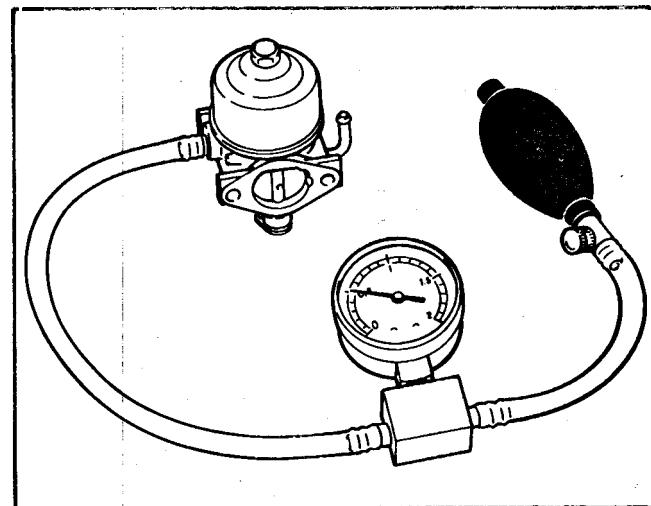

Figure 18
3. If it is suspected that the seat is leaking, the carburetor can be pressure tested after it has been cleaned. Use Toro Pressure tester, Number 41-7910. If the seat is good, it will hold .5kg/cm² (7 psi) for at least 10 seconds. This procedure should be completed with the carburetor turned upside down so the seat holds the needle closed. See Figure 18. If the pressure leaks down, replace the 'needle and try the test again. If the carburetor fails again, the seat is bad and the carburetor must be replaced